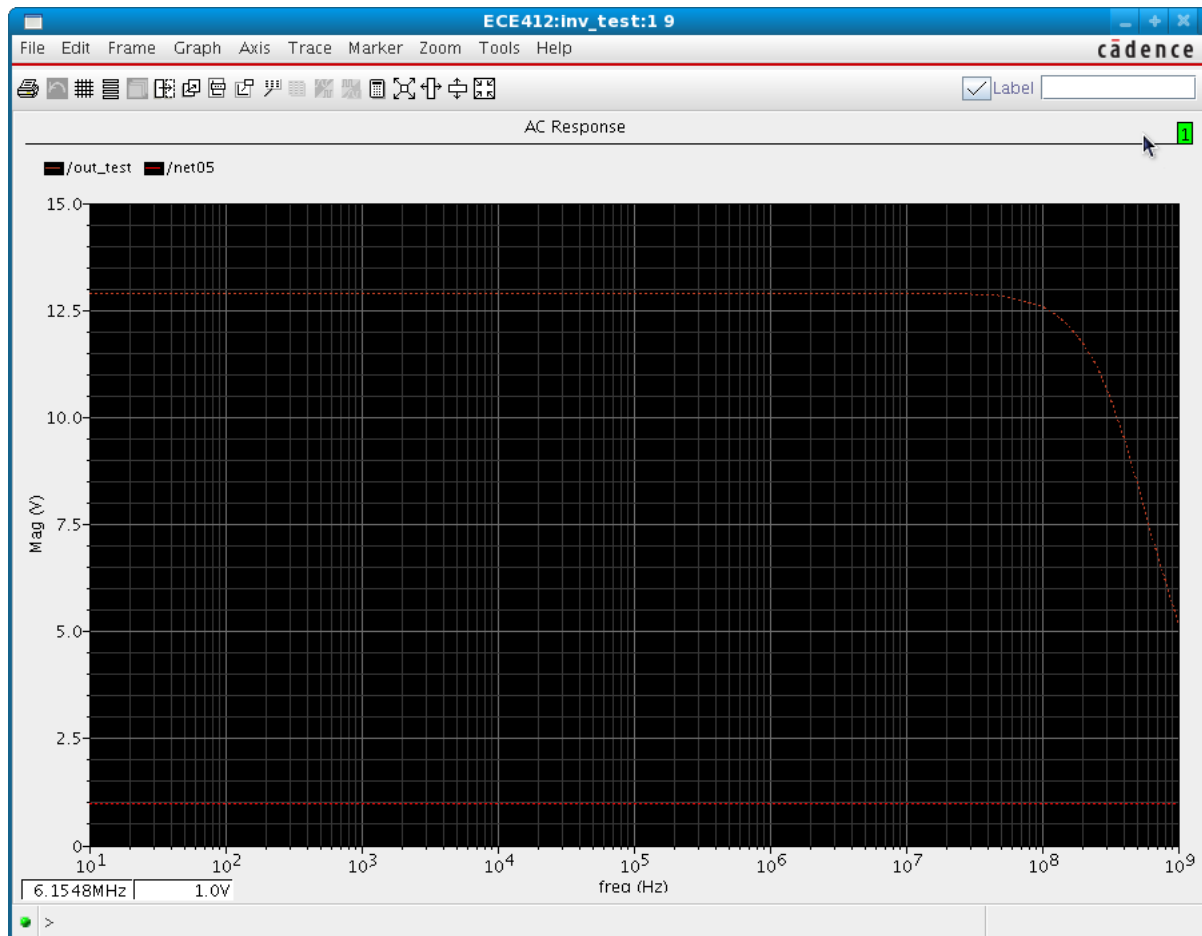

Figure 22: AC analysis for an inverter
5. Under Data View: Disable all other analyses and make sure that “ac” is checked. Start the simulation. If the plots do not appear go to **adexl** tab then **Results** and click on “Plot All”. The simulation result will look like figure 22.